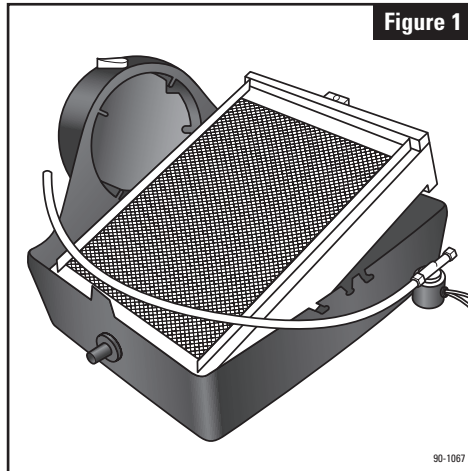
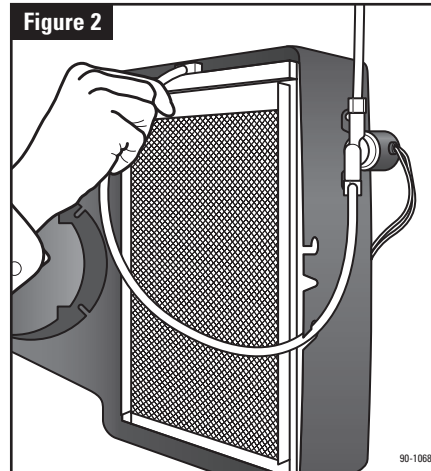

Figure 1
Figure 2
1. Remove front cover by pressing center tabs on top and bottom of the cover (1) and base (2). Pull feed tube (3) out of the water distribution tray (4). Tip the evaporative assembly forward and lift it out of the humidifier. (See Figure 1)
2. The humidifier comes assembled for left side discharge. If converting to right side discharge, the base can be rotated so round collar is facing to the right. Swap the location of the hole plug (10) and drain spud (9) if using a right side discharge. To remove the cap, push and twist from inside the housing while lifting the cap up slightly on the outside. To remove the drain spud, twist and push from the outside of the base.
6. Reinstall the evaporative assembly back into the base, with the bottom of the scale control insert (6) sitting firmly in the inside of the drain spud (9). Push the feed tube
- back into the water distribution tray. (See Figure 2) Put the front cover back on. If the nameplate (11) is upside down, remove it and rotate the nameplate so it is right side up, and snap back into place. Turn damper handle (8) to the open position "WINTER" for the heating season, or closed position "SUMMER" for the cooling season.